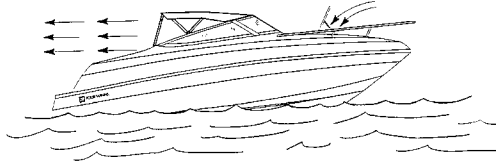

Figure B12: Desired air flow through the boat.
4. Opening and closing ports, hatches, doors, and windows may raise or lower CO levels on board a boat. See Figures B12 and B13.